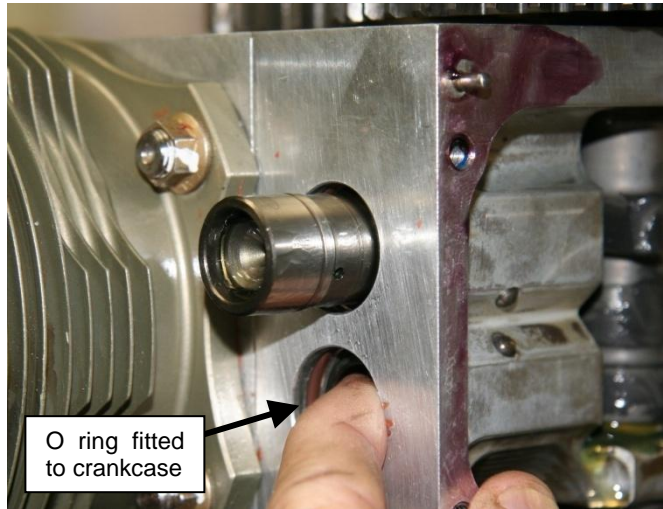

Figure 176 – Fitting Hydraulic Lifter To Crankcase
2. For hydraulic lifter engines, fill the lifters with oil (using an oil can - Figure 176) and fit the lifters to the crankcase. The outside of the lifter must also be well lubricated with oil before fitting and note also the light covering of grease which has been applied to the camshaft lobes – this is to minimise wear during initial start-up. Note that solid lifter engines have their lifters fitted before crankcase assembly – there is no way to do it once the case halves are assembled.
4. **Fit new O rings to the crankcase to seal the pushrod tubes (solid lifter models) – see Figure 176.**